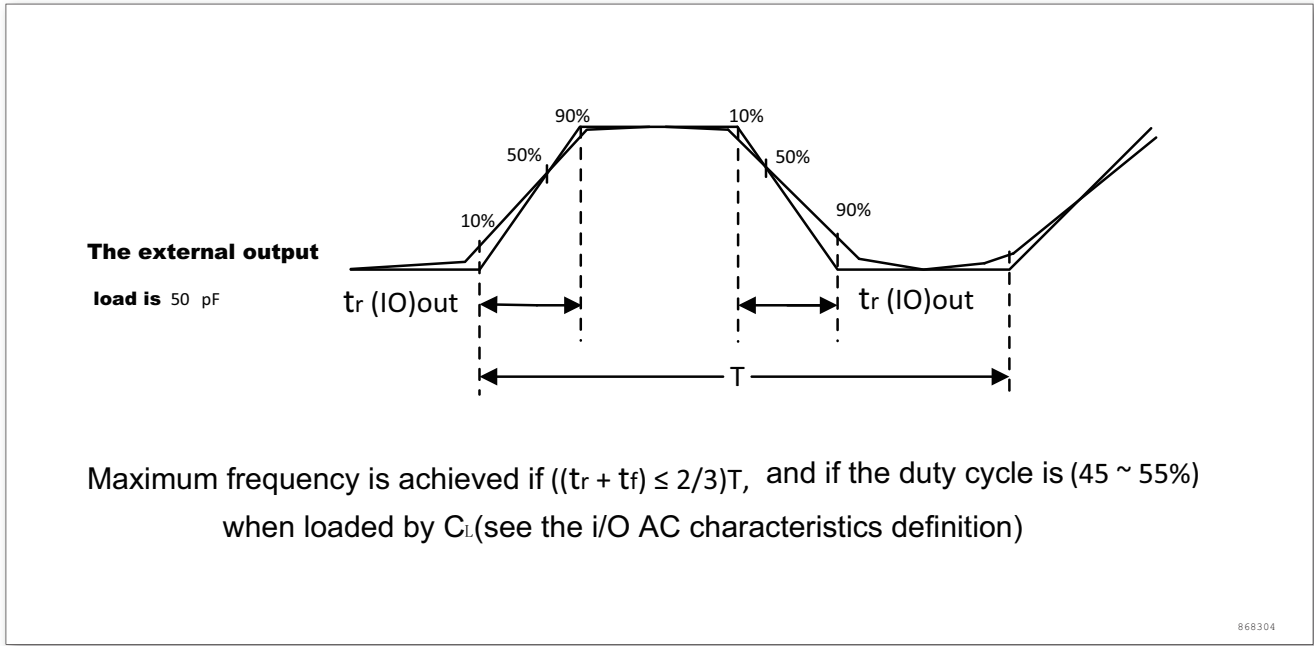

Figure 13. I/O AC characteristics
The definitions and values of the input and output AC characteristics are given in figure 13 and Table 32, respectively.
2. The maximum frequency is defined in figure 13.